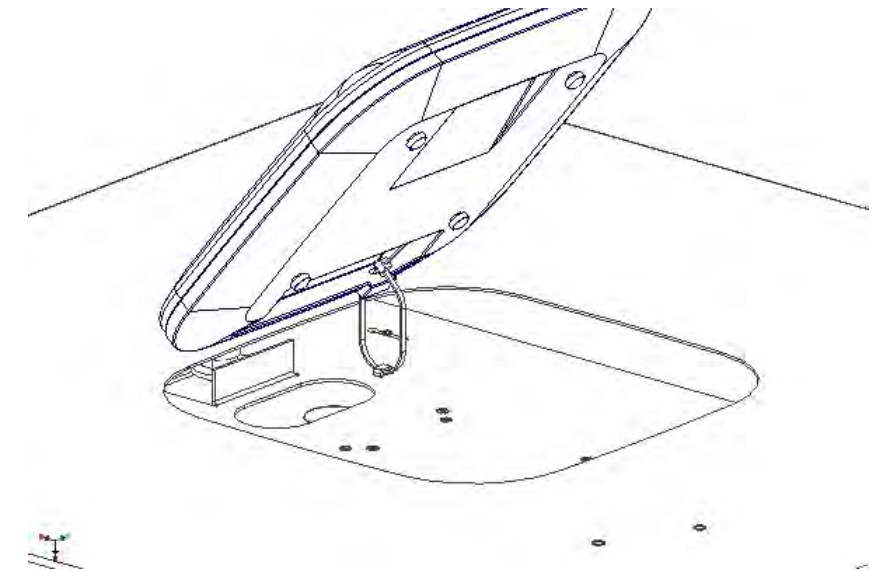

Figure 3 – Loosely attach the cable tie
Step 3 - Loop the cable tie through the tether anchor located on the mounting plate of the enclosure and lock the cable tie loosely (reference *Figure 3*).